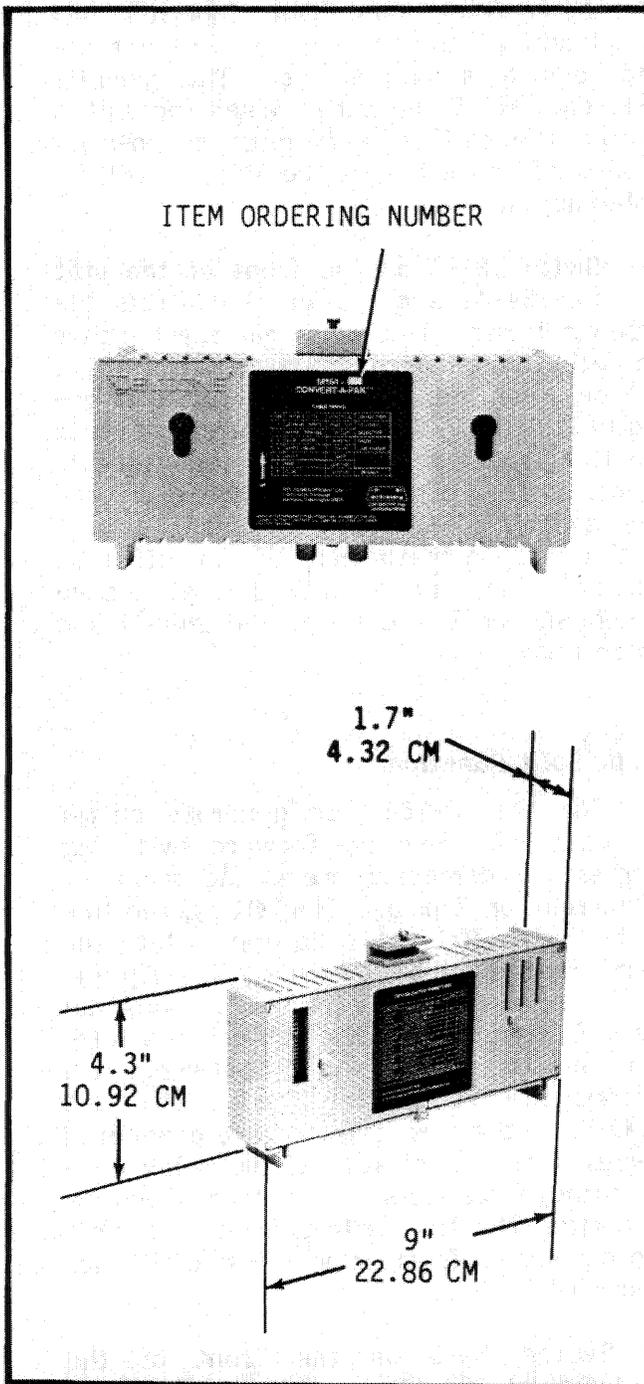

Figure 1 M-164 CONVERT-A-PAK
1.01 This technical bulletin applies to TELTONE® M-164 * CONVERT-A-PAK™ tone-to-pulse converters with item ordering numbers M-164-41, -42, -46, -49, and -50 (see figure 1). Descriptions, ordering information, installation procedures, and troubleshooting procedures are provided.
3.03 The M-164's thermal plastic housing is 4.3 inches high (10.92 cm), 1.7 inches (4.32 cm) deep, and 9 inches (22.86 cm) wide as shown in figure 1. The housing meets UL94 V-0 requirements. The M-164 includes all the interface circuitry, logic elements, and DTMF receiver functions to convert one linefinder or selector. The unit operates on the same negative battery voltage supply as other telephone equipment.